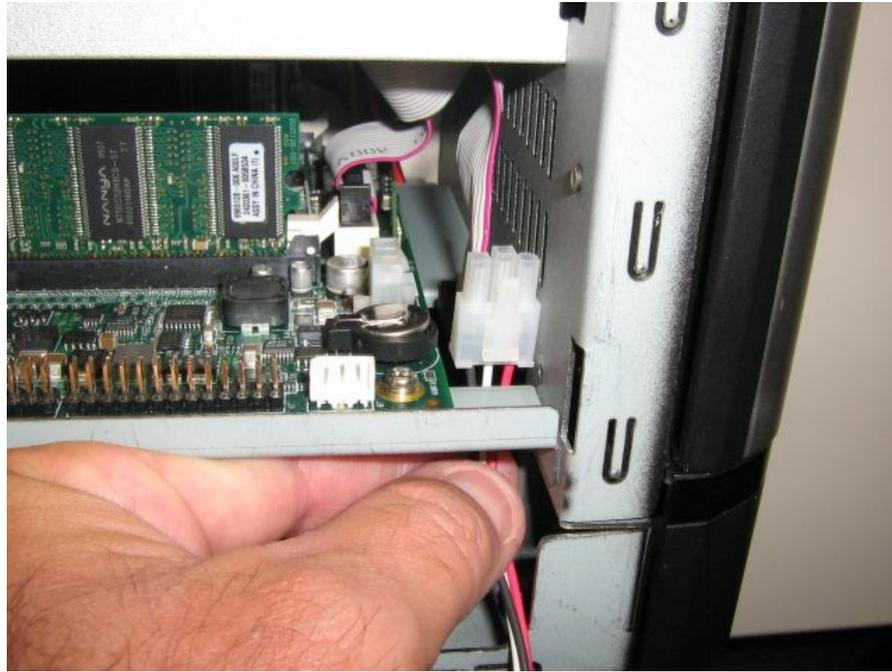

Figure A-6 Align the Battery Plug with Connector J11
3. Carefully feed the battery's connector up through the hole in the mounting plate as shown in Figure A-6. Do not damage the insulation on the wires.